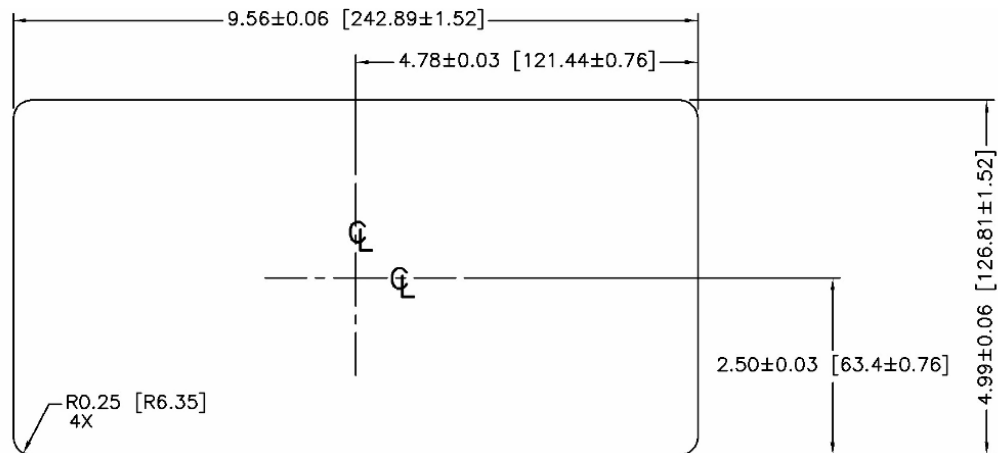

Figure A-7: Panel Cutout Dimensions
4. The opening (or cut-out) in the control panel or industrial enclosure should be sized per the panel cutout dimensions shown in Figure A-7. Dimensions are provided in inches and [millimeters].